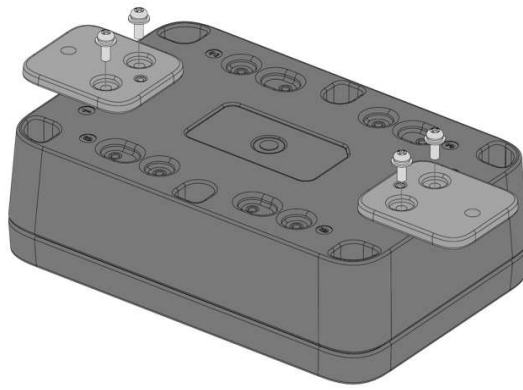

Figure 21: Fixing the wall mount on the enclosure
2. Fix the wall mounts marked with the letter **D** on the WisBlock Unify Enclosure using four (4) pieces of M3*8 mm head screw with a washer. Place it on fix positions number **1 & 4** or **2 & 6** or **3 & 6** of the enclosure, as shown in **Figure 21**.